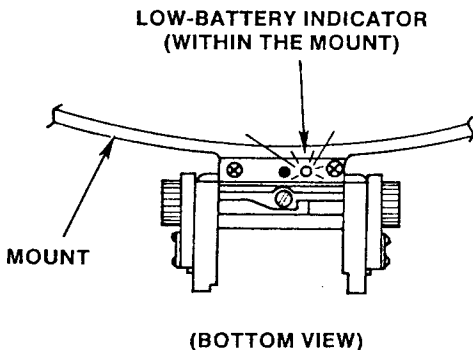

Figure 2-11. Low-Battery Indicator.
(6) The power connector is quick release. To connect the two cables, align the red dots and press the male connector (from the power pack) into the female connector on the edge of the visor shield until the two halves click.
e. Low-Battery Indicator Check. At the base of the goggles mount is a red light emitting diode (LED) that comes on or blinks at a steady rate when battery voltage is low (fig. 2-11). To make sure this indicator works, perform the following check.